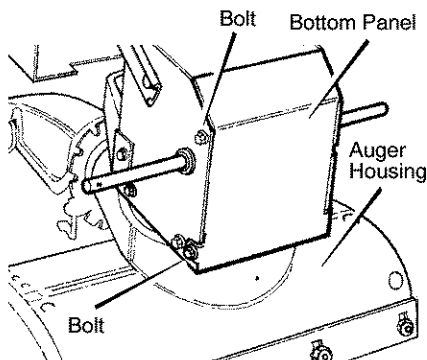

Figure 28
2. Stand the snow thrower up on the front end of the **auger housing** (see Figure 28).
4. Loosen the **bolts** on each side of the **bottom panel** (see Figure 28).
5. Install the **bottom panel** (see Figure 28).
2. Stand the snow thrower up on the front end of the **auger housing (4)** (see Figure 28).